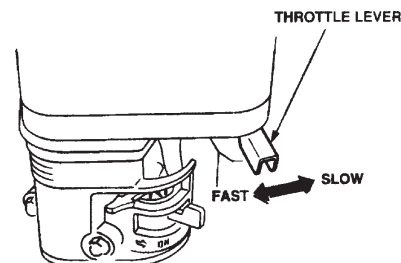

Figure 22. Throttle Lever
4. Rotate the **throttle lever** (Figure 22) halfway between **fast** and **slow** for starting. All cutting is done at **full throttle**. The engine governor speed is factory set to ensure optimum blade operating speeds.